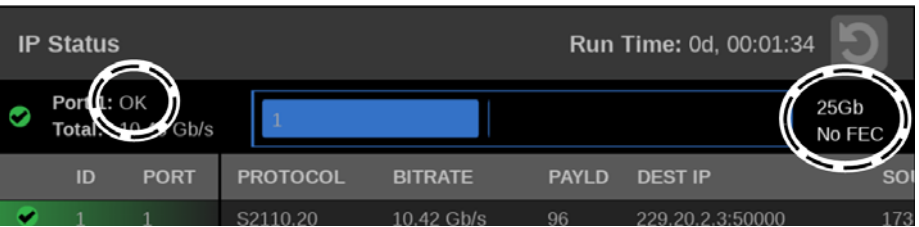

Figure 37: IP Status display port status
- The IP Status display has the Data Rate setting, the FEC setting, and the signal status. (See Figure 37.)